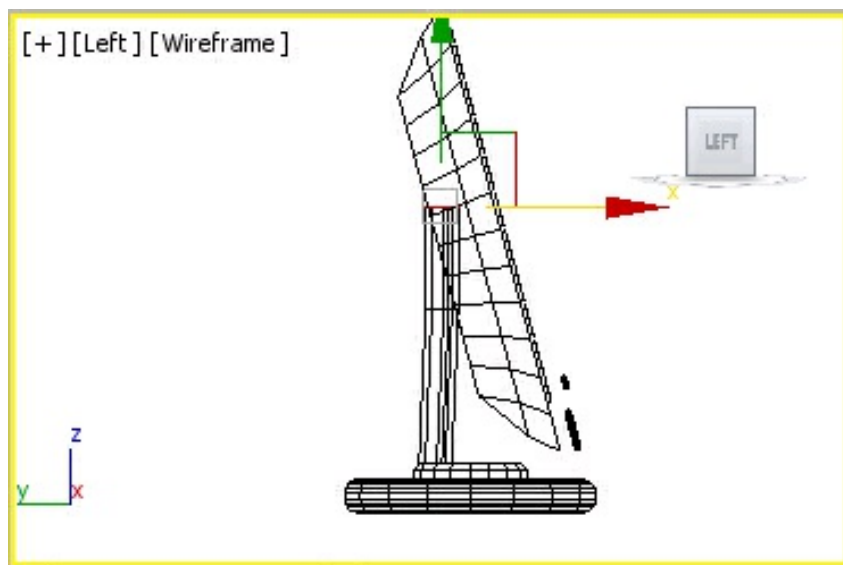

Figure 8-155 The support geometry in the Left viewport after extrusion
23. In the **Edit Polygons** rollout, again choose the **Settings** button on the right of the **Extrude** button; the **Extrude Polygons** caddy control is displayed. Set the value **19** in the **Height** spinner and press ENTER. Next, choose **OK** twice to close this caddy control. The *support* is extruded in the Left viewport, as shown in Figure 8-155.